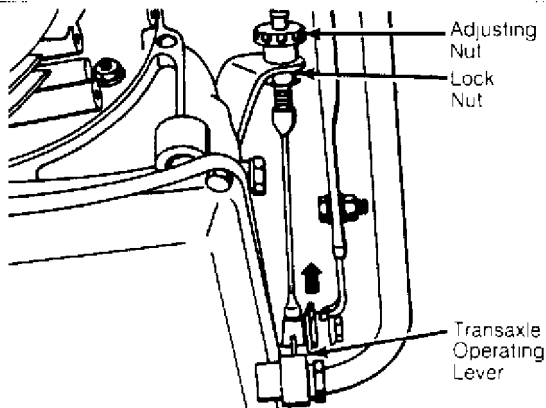

Fig. 7: Quantum Throttle Cable
6) Loosen lock nut located below adjusting nut on throttle cable. See Fig. 7. Depress accelerator pedal to stop on floor and hold.